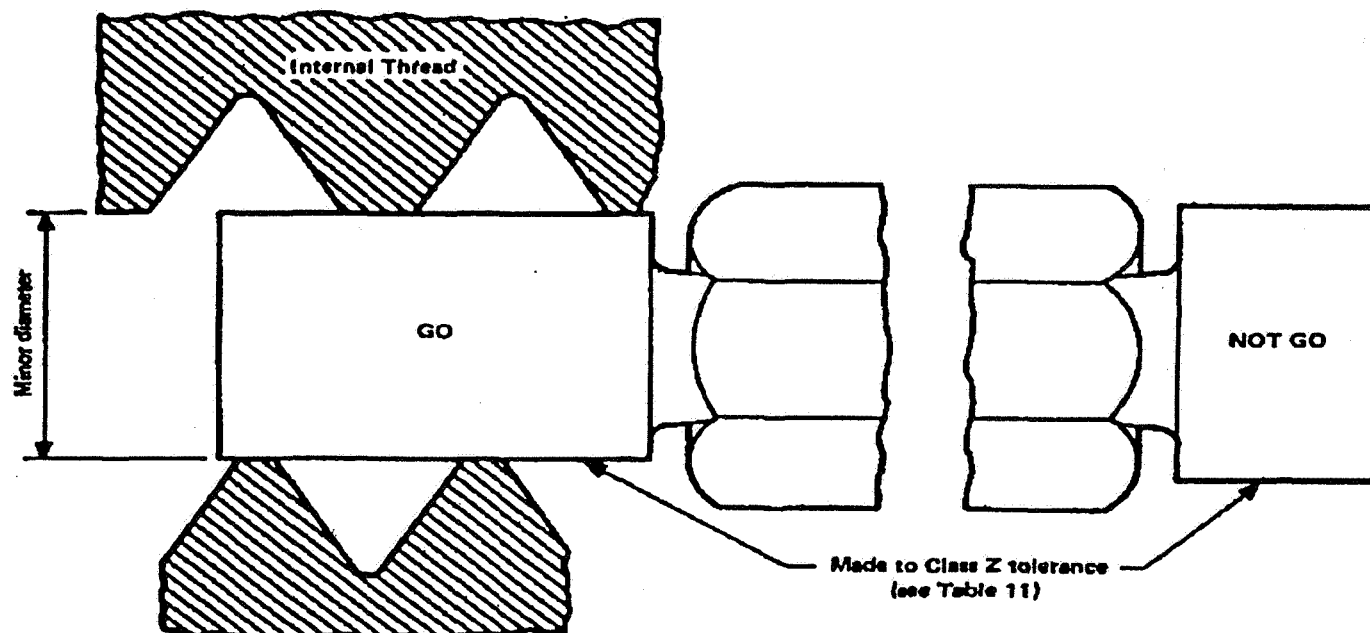

Figure 74 - Internal Thread Minor Diameter Gage
- **Minor diameter (See Figure 74)**